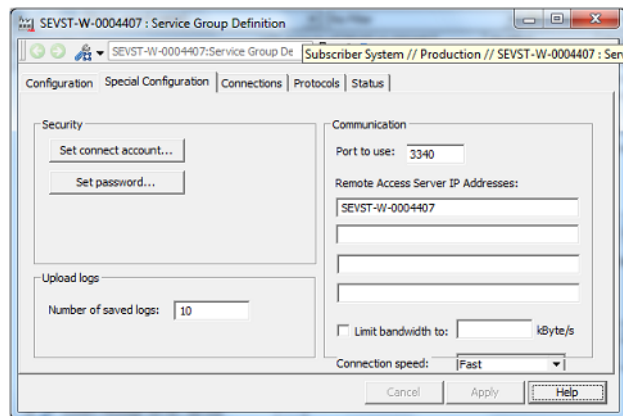

Figure 19. Remote Access Client, Special Configuration Tab
The configuration of the Remote Access Client can be changed after the Remote System object is created. Select **Service Structure** and open the Services/Remote Access Client/Service Group. Select the **Service Group Definition** aspect, the **Service Group Definition** dialog is displayed, see Figure 19.
3. Click **Set Password**, see Figure 19. Password only have to be set if encryption is used.